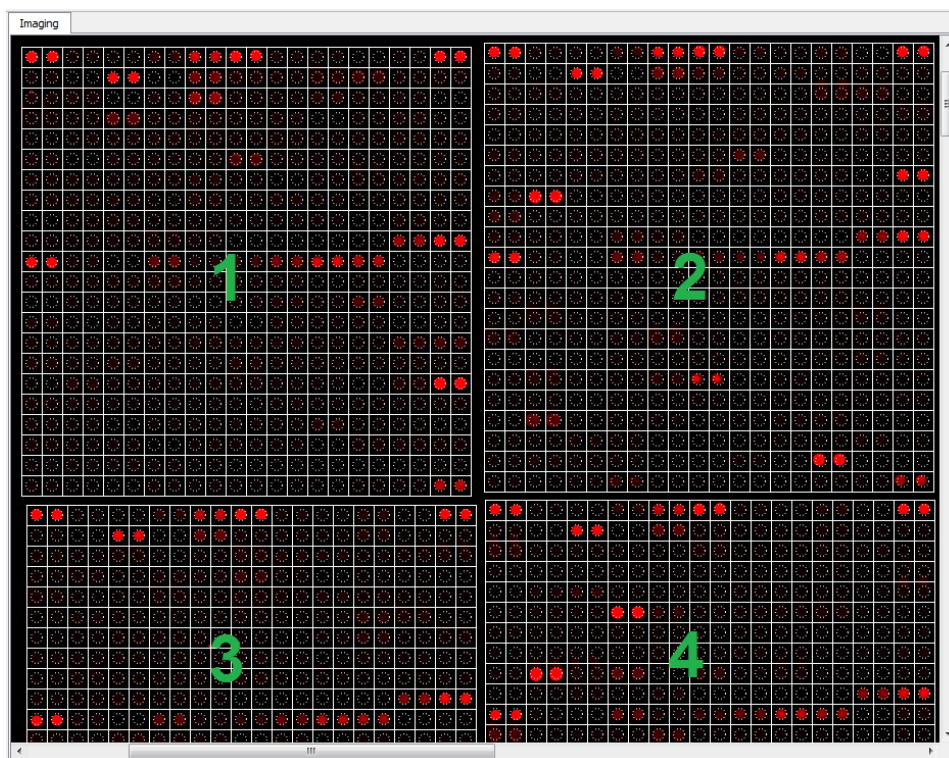

Figure 12: Offset of Blocks.
Normally, two adjacent blocks are planned to have approximately the same horizontal (X) or vertical (Y) position. The printed blocks, however, may slightly offset from that planned position. In Figure 12, we observe the difference in the horizontal position of block 1 and block 3 as well as in the vertical position of block 3 and block 4.
- *Left-most blocks*: The maximum difference in X-position between left-most blocks of the array. In Figure 12, these are block 1 and block 3.
- *Two adjacent blocks*: The maximum difference in X-position between two adjacent blocks which are not left-most. In Figure 12, these are block 2 and block 4.
- *Top-most blocks*: The maximum difference in Y-position between top-most blocks of the array. In Figure 12, these are block 1 and block 2.
- *Two adjacent blocks*: The maximum difference in Y-position between two adjacent blocks which are not top-most. In Figure 12, these are block 3 and 4.